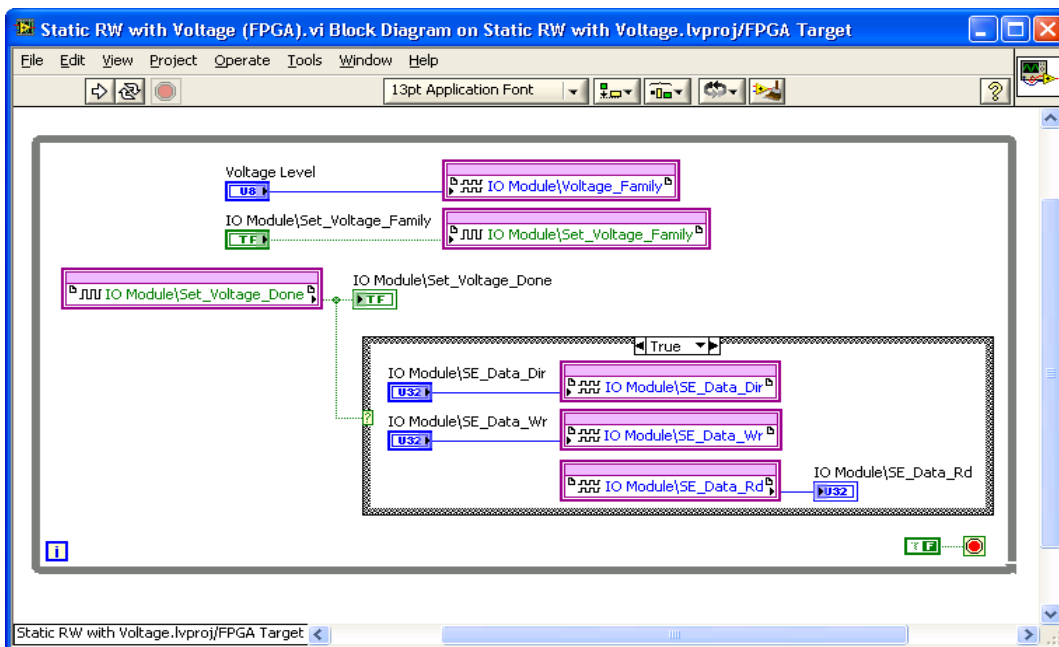

Figure 14. Static RW with Voltage (FPGA).vi Block Diagram
11. Add a While Loop around all six data nodes, as shown in Figure 14.
19. Wire the Voltage Level control to the **IO Module\Voltage_Family** node, as shown in Figure 14.
- Your block diagram should now resemble the block diagram in Figure 14.